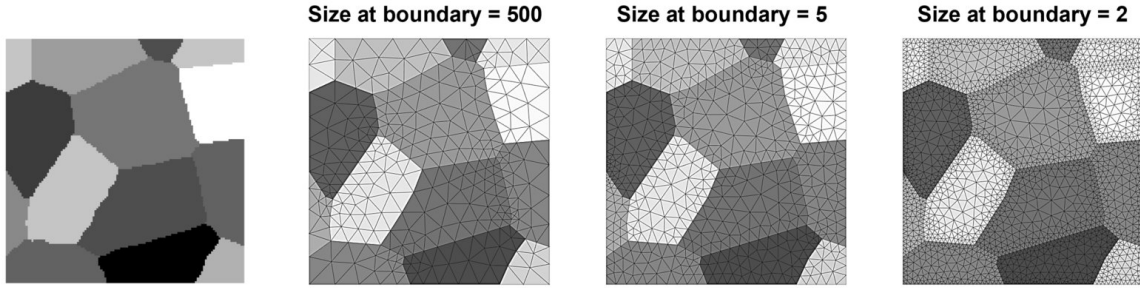

Figure 12: Refine mesh near polygonal boundary
- *Size at Boundary*: Element size at constraint edges (i.e., all polygonal boundaries). This parameter is introduced by me to refine mesh near all polygonal boundaries (Figure 12), which maybe useful in some cases. If you don't need to refine mesh near boundary, you can set *Size at Boundary* to 0 or a value < 0.05 or ≥ 500 .